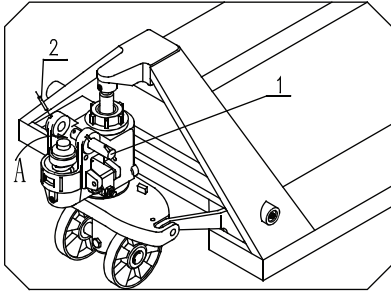

Fig. 1.
- See fig 1, pull out the pin roll 1.